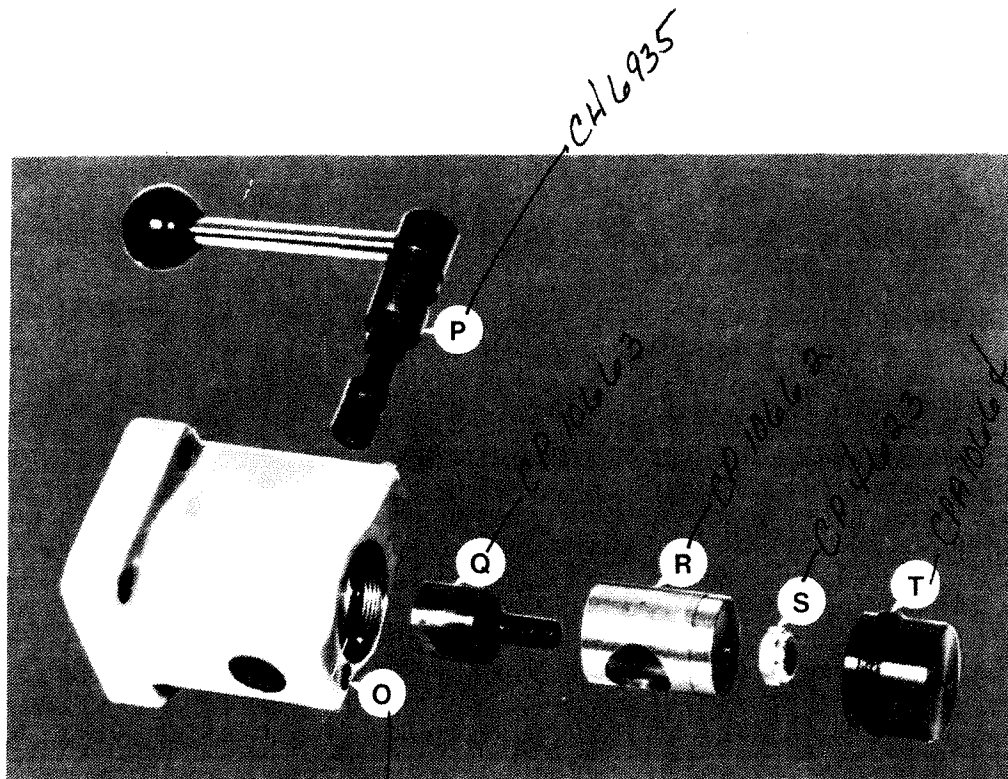

Figure 1.16 - Clutch Housing and Components
- b) Remove cap "T" and nut "S", Figure 1.16 .
25. Place the clutch handle in the notched position and tighten stop screw "O", Figure 1.16 .